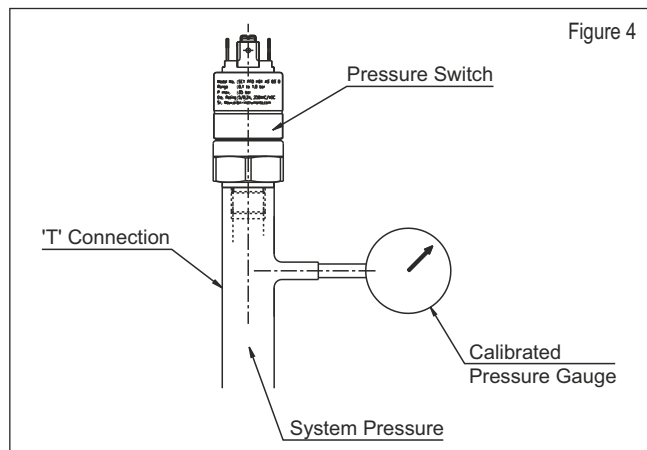

Figure 4
- 1) Use 'T' connection and connect calibrated pressure gauge to the 'T' connection as shown in Figure 4.